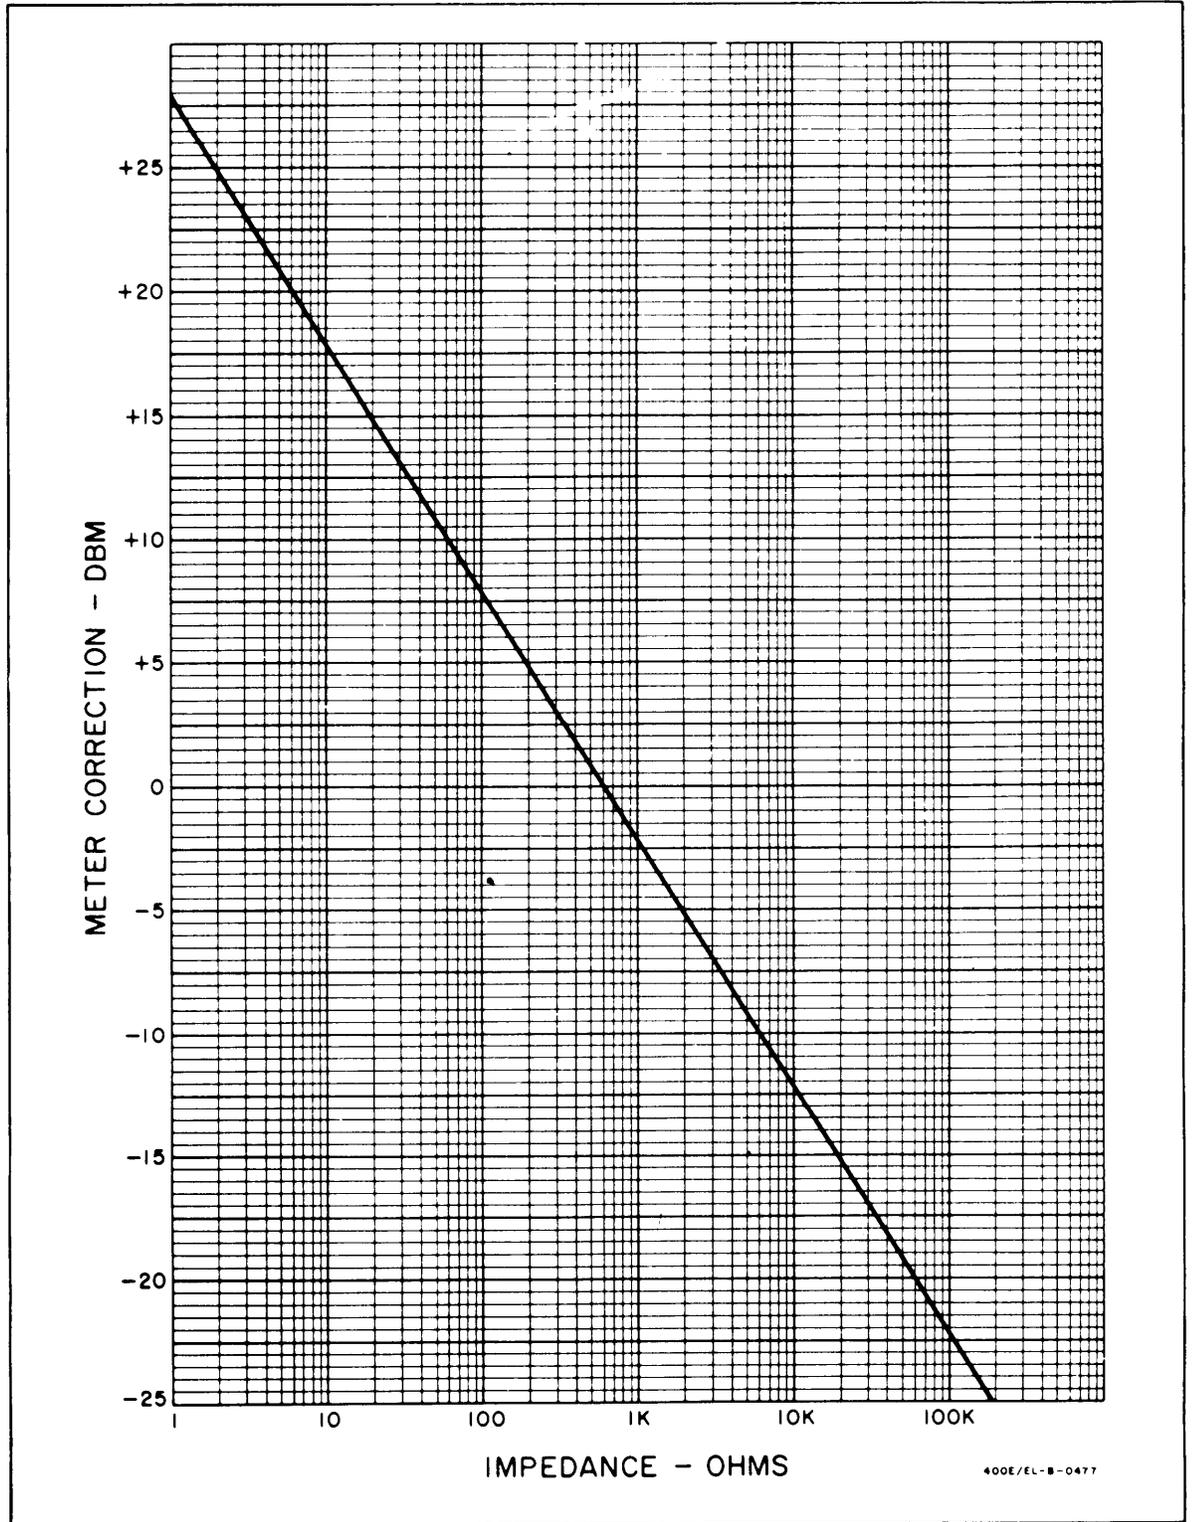

Figure 3-3. Impedance Correction Graph
- c. To convert a db reading to dbm, use the Impedance Correction Graph (Figure 3-3). For example: To convert a +30 db reading made across 50 Ω to dbm, locate the load impedance on the bottom of the graph. Follow the impedance line to the heavy black line and read the meter correction at that point. The correction for 50 Ω is +10.5 dbm, and the corrected reading is +40.5 dbm.